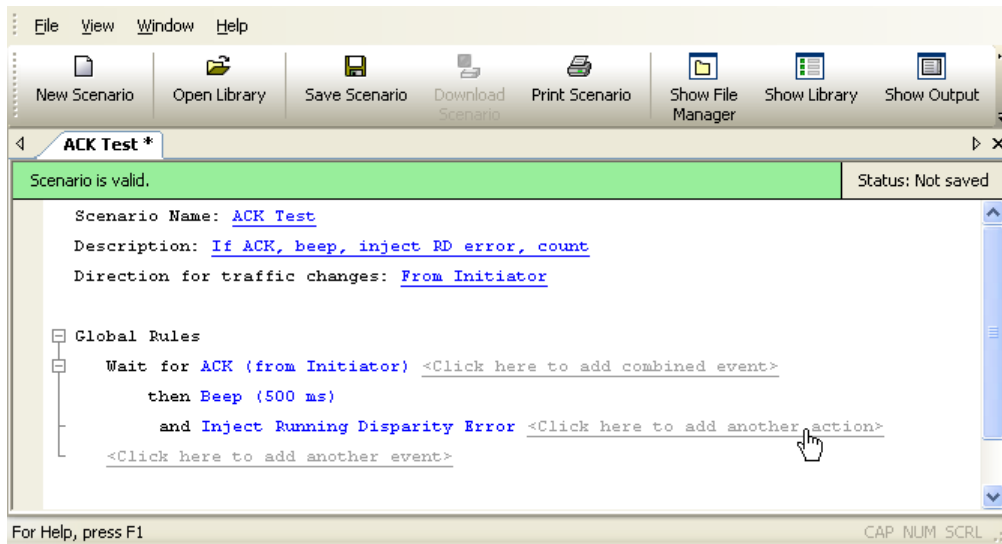

Figure 5.28 Example 5: Entering the Third Action
Step 5 Click on the **add another action** prompt to add a third action (Figure 5.28).